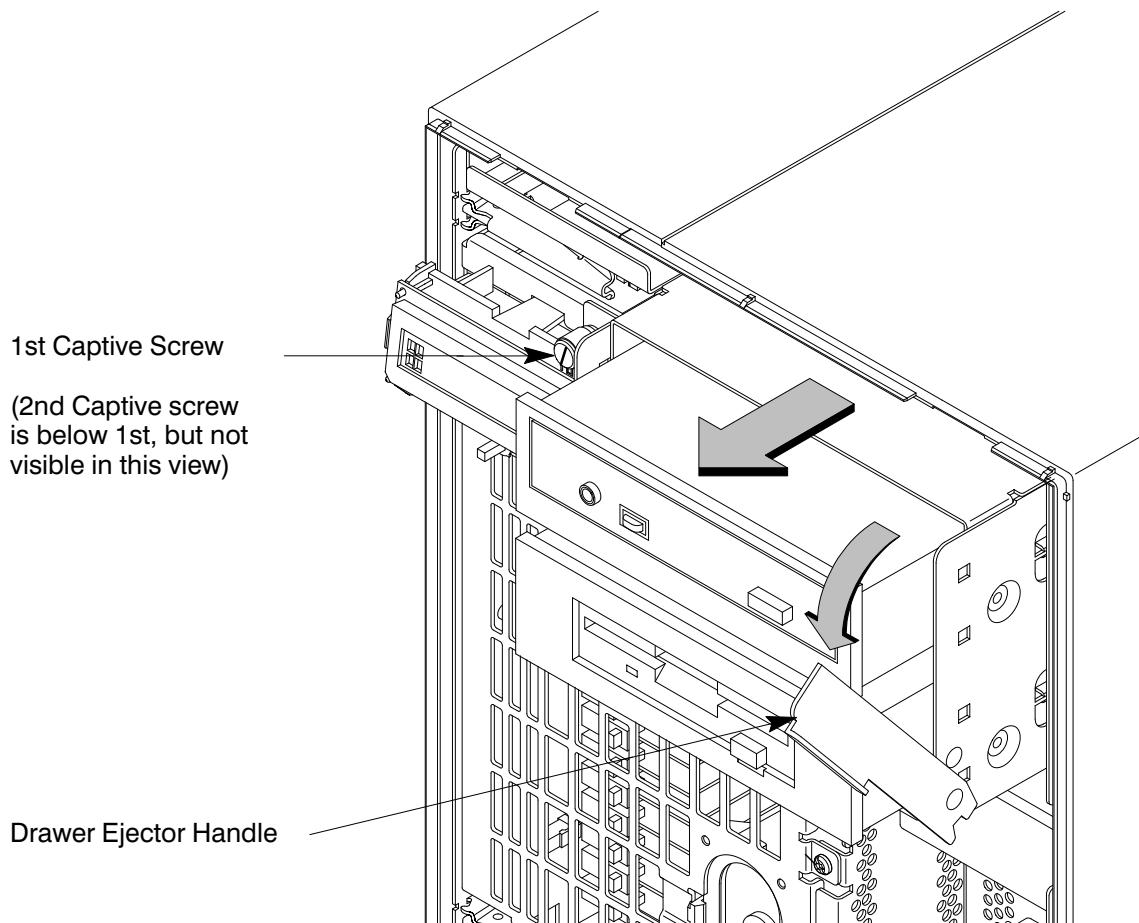

Figure A-3. Removing Storage Drawer from System Unit
2. Unscrew the two captive screws on the left side of the Storage Assembly and pull down the drawer ejector handle on the right side of the Storage Assembly, as shown in Figure A-3.